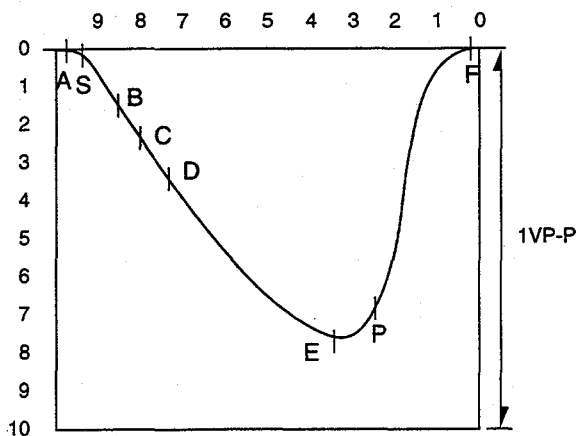

Fig. 3
2. Adjust T302 to made the marker point "P" of VIF waveform to AROUND the maximum amplitude as fig. 3 (Relative markers frequency see table 1.)